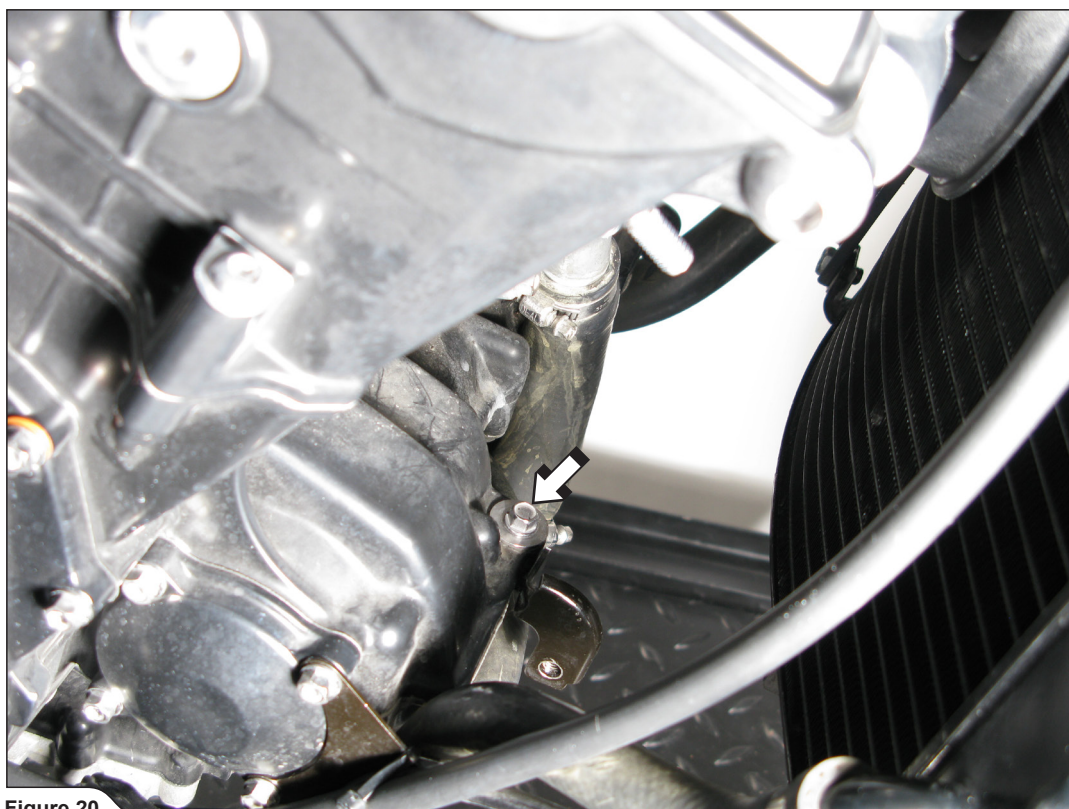

Figure 20
18. **For Racing exhaust system only:** unscrew the market bolt and remove the second part of the radiator's bracket off the engine block (Figure 20).